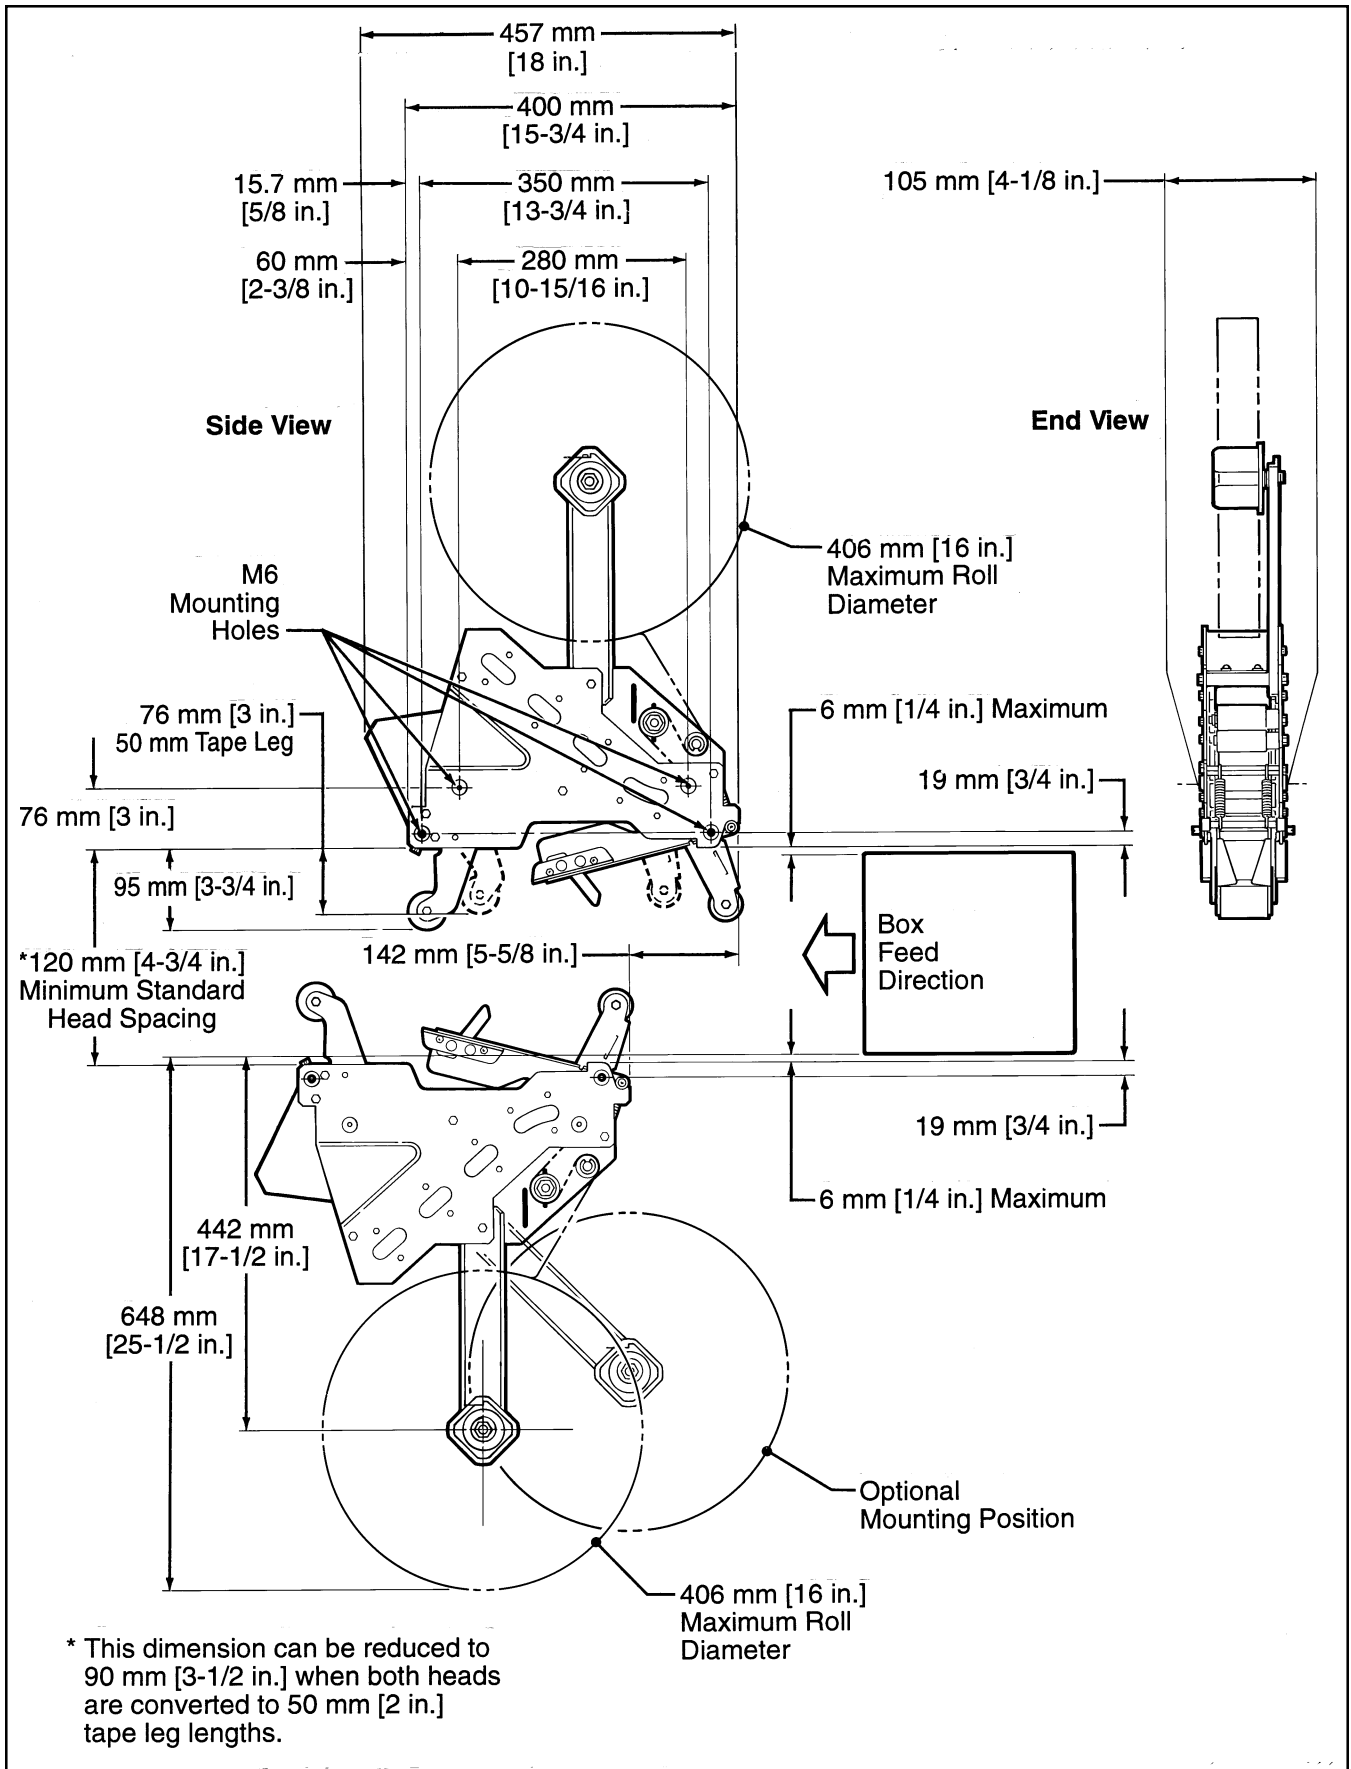

Figure 2-1—Dimensional Drawing
The taping head assembly can be used in converting existing or in custom made machinery. It can be mounted for top taping or bottom taping. Refer to "Box Size Capacities," as well as Figure 2-1 in the Specifications section, for the following points in making such installations:
3. Figure 2-1 illustrates the typical mounting relationship for opposing taping head assemblies to allow taping of box heights down to 90 mm [3 1/2 inches]. To tape box heights down to 70 mm [2 3/4 inches], the taping heads must be completely staggered so that only one tape seal is applied at one time.